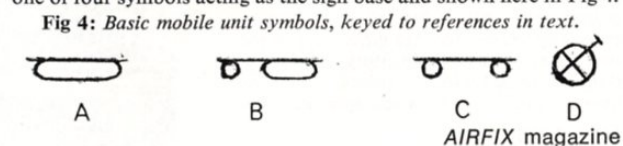

Fig 4: Basic mobile unit symbols, keyed to references in text.
(3) Mobile units (which these are, by definition) are indicated by one of four symbols acting as the sign base and shown here in Fig 4.